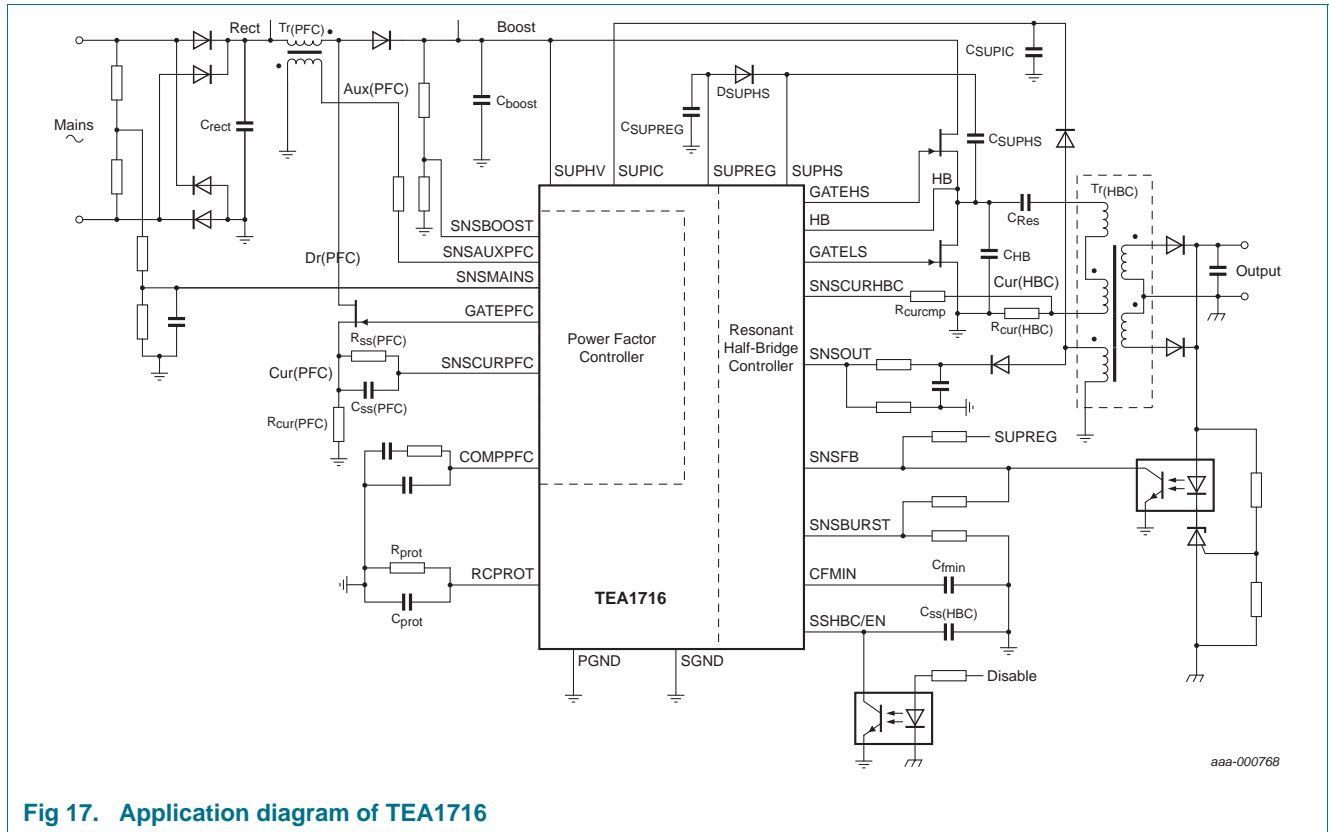

Fig 17. Application diagram of TEA1716
- [3] For a typical application with a compensation network on pin COMPPFC, like the example in Figure 17.